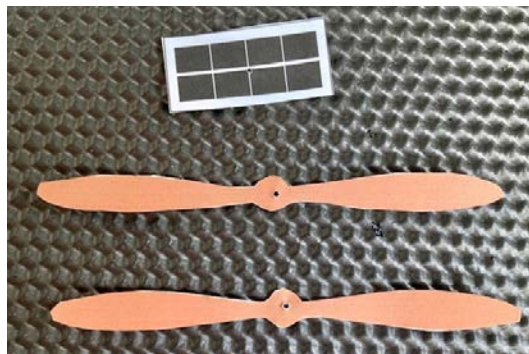

Figure 3. Cut out one set of parts for your helicopter.
4. Print out the final page of this document on cardstock or other stiff paper. As shown in *Figure 3*, you will need to cut out one set of parts (a solar panel and two rotor blades) for each helicopter you are making. NOTE: The final page contains two sets in case you are making multiple models – you only need **one** set per model.